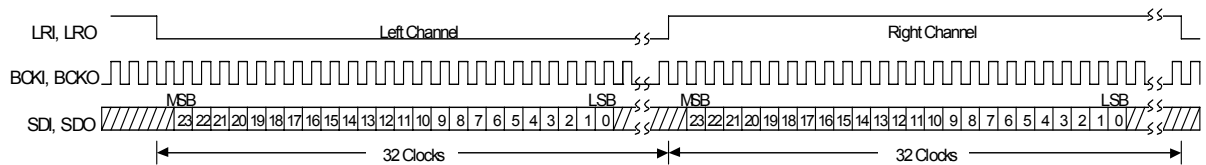
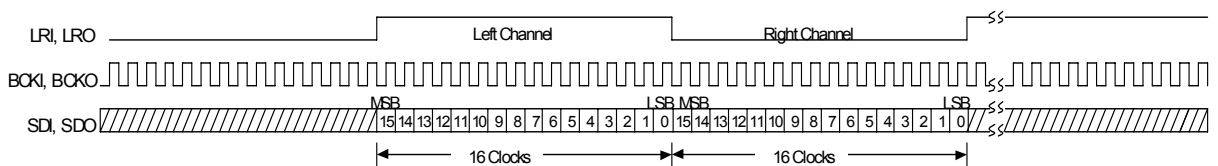

Fig8-1 I²S Data Format 64Fs, 24bit Data
Fig.8-6 Right-Justified Data Format 32Fs, 16bit Data
The NJU26060 Series can use three kinds of formats hereafter as industry-standard digital audio data format; (1) I²S (2) Left-justified (3) Right-justified and 16 / 24bits data length. (Fig.8-1 to Fig8-6) An audio interface input and output data format become the same data format.